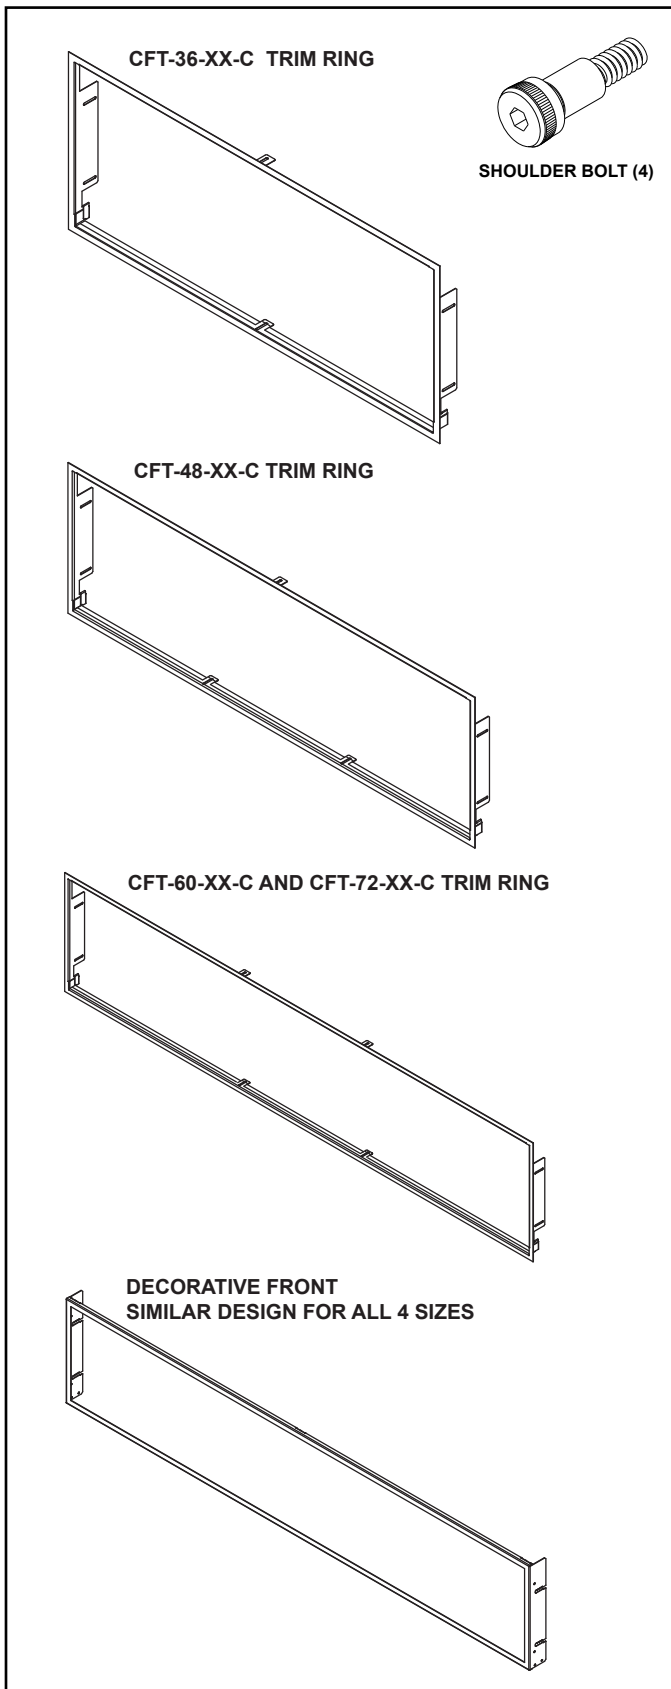

Figure 2 CFT Front Components
1. Remove decorative front and components from package. See Figure 2.